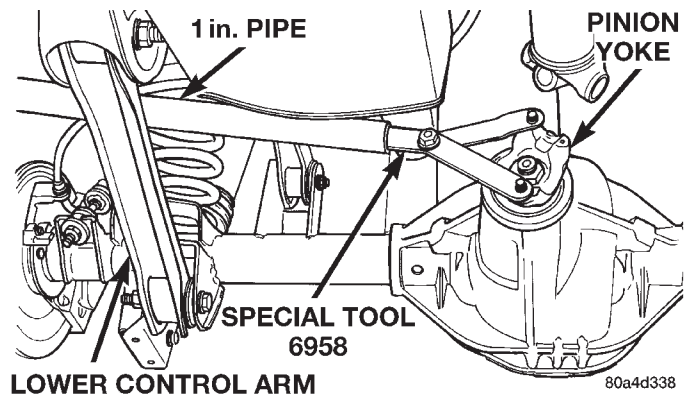

Fig. 14 Pinion Yoke Holder
- (1) Raise and support the vehicle.
- (2) Remove wheel and tire assemblies.
- (3) Remove rear brake rotors and calipers. Refer to Group 5, Brakes, for proper procedures.
- (4) Mark the propeller shaft and pinion yoke for installation reference.
- (5) Remove the propeller shaft from the yoke.
- (6) Rotate the pinion gear three or four times.
(7) Measure the amount of torque necessary to rotate the pinion gear with a (in. lbs.) dial-type torque wrench. Record the torque reading for installation reference.
(8) Using a short piece of pipe and Holder 6958 to hold the pinion yoke, remove the pinion nut and washer (Fig. 14).
(4) Mark the propeller shaft and pinion yoke for installation reference.
(5) Remove the propeller shaft from the yoke.
(6) Rotate the pinion gear three or four times.
(8) Remove differential assembly from axle housing.
(9) Using Holder 6958 to hold yoke and a short length of 1 in. pipe, remove the pinion yoke nut and washer (Fig. 14).